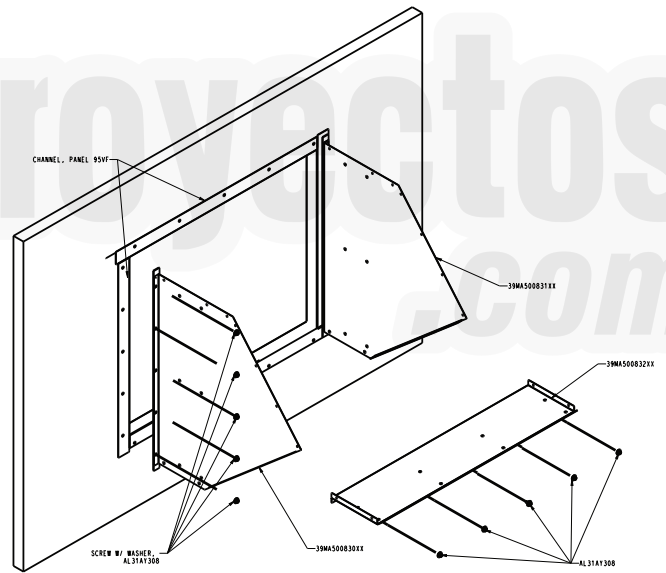

Fig. 70 — Attaching the Side Panels and Bottom Panel
7. First, attach side panels to return/exhaust fan opening using the 1/4 in.-14 x 3/4 in. sheet metal screws (with neoprene washers.) Then attach bottom panel using similar sheet metal screws. See Fig. 70.